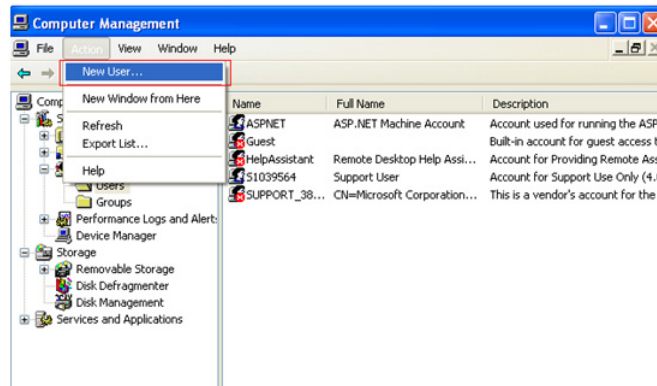

Figure 22 New user
- 2 Select **Action**, and click New User... as shown in **Figure 22** to create a new user account named “Everyone” in English.